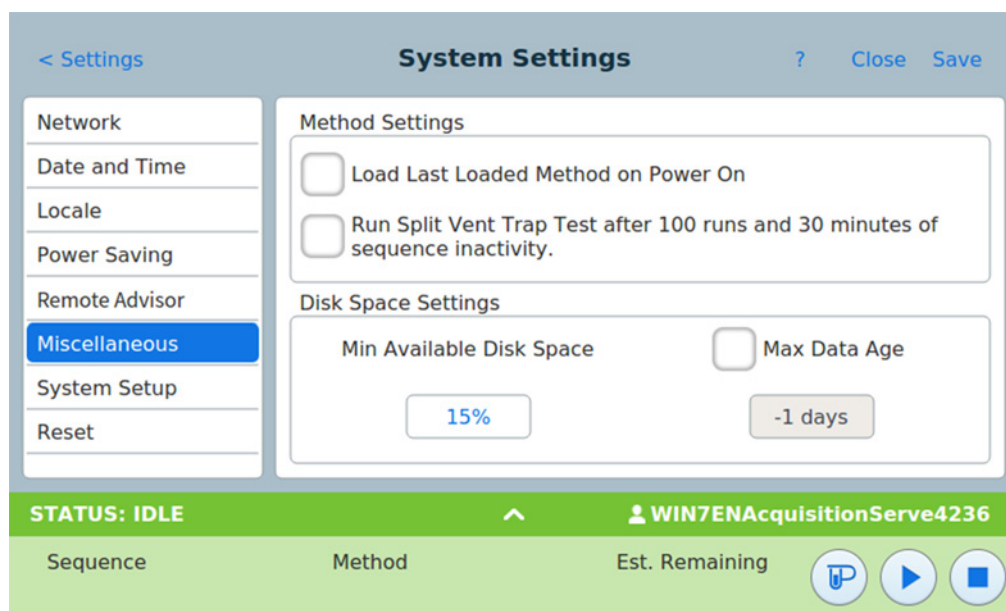

Figure 48 Miscellaneous page
- 1 From the System Settings page, press the **Miscellaneous** page selection button. The Miscellaneous page appears. See Figure 48.